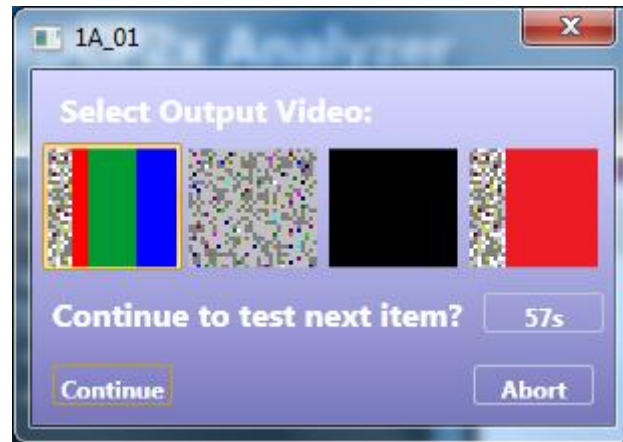
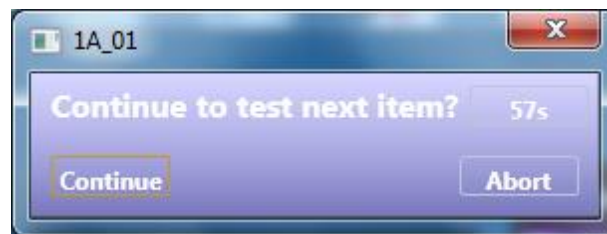

Figure 1.11. Dialog with Select Output Video Option
Figure 1.12. Dialog without Select Output Video Option
- If the test case shows video at the end of the test and the authentication process has completed successfully, a dialog box pops up to let you select the output video pattern that matches the one on the display device. See Figure 1.11.
- If the test case does not show video at the end of the test or the authentication process has failed, the dialog box pops up, as shown in Figure 1.12. Select “Continue” to run the next test item or “Abort”.
2. If the test case shows video at the end of the test and the authentication process has completed successfully, a dialog box with the “Select Output Video” option (see Figure 1.11) pops up to let you select the output video pattern that matches with the one on the display device. If the test case does not show video at the end of the test, the dialog box without the “Select Output Video” option (see Figure 1.12) pops up to let you decide whether to continue next item by selecting “Continue” or “Abort.”